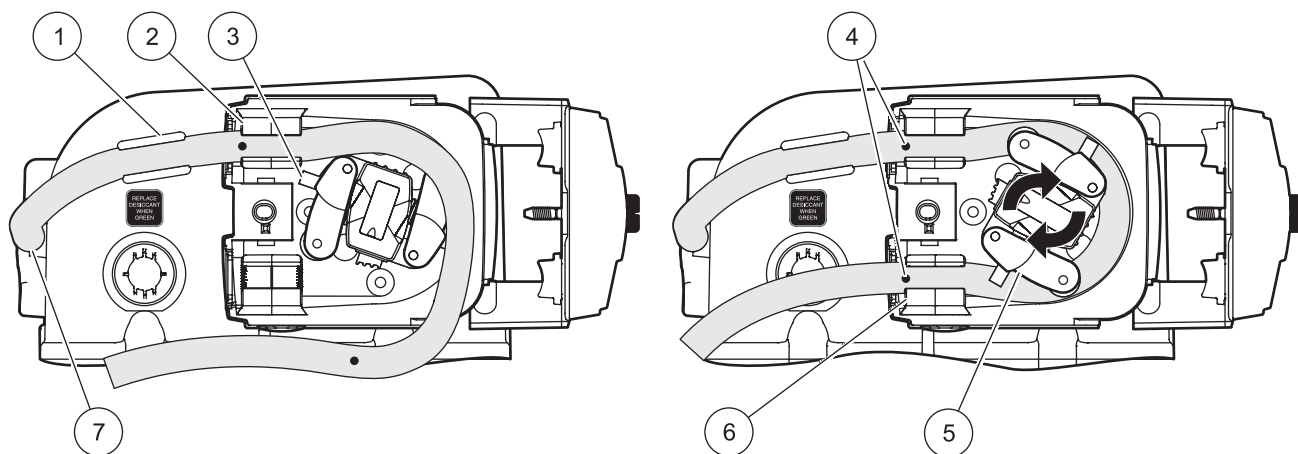

Figure 23 Pump tubing installation
1. Connect one end of the tubing to the liquid sensor fitting. Press the tubing into the pump tube guide (Figure 23).
2. Press the tubing into the upper pump tube track. Make sure that the alignment dot is in line with the upper pump tube track as shown in Figure 23.
3. Hold the tubing with one hand while rotating the pump rotor to guide the tubing around the rotor (Figure 23). The guide pins will push the tubing into place.
4. Press the tubing into the lower pump tube track. Make sure that the alignment dot is in line with the lower pump tube track as shown in Figure 23.